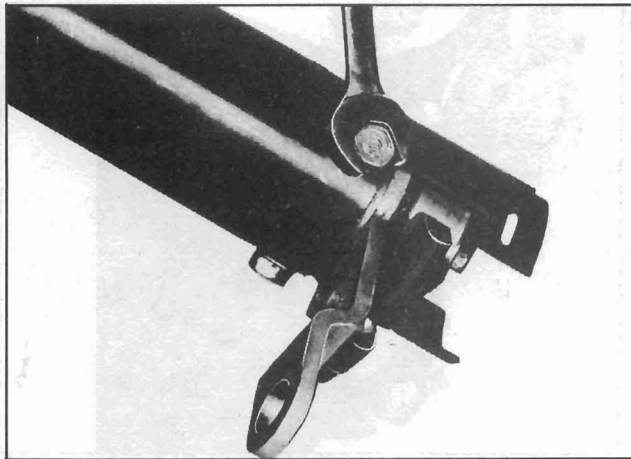

Fig. 9-27 Removing Lower Shift Tube Support Screws Manual Transmission
6. Remove three screws from shift tube support at lower end (Fig. 9-27).